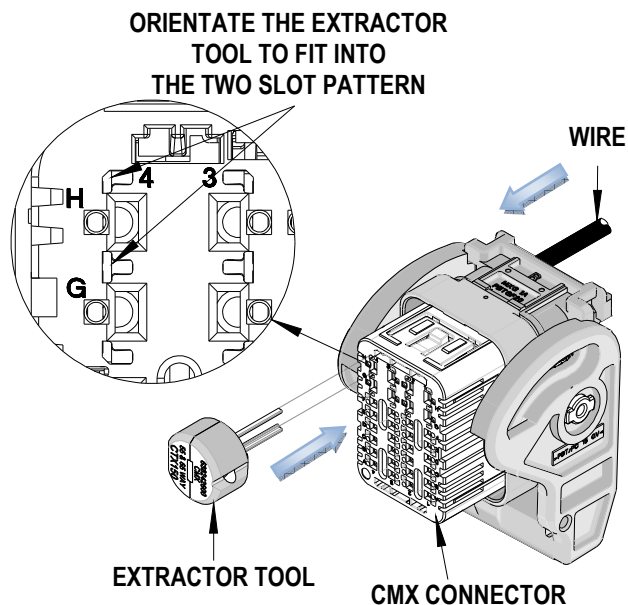

Figure 3
1. Position the two blades of the extraction tool into the small slots in the front face of the housing as shown in Figure 3. Use the identifying markings on both the front and back of the connector to locate the opening used to extract the crimped wire.